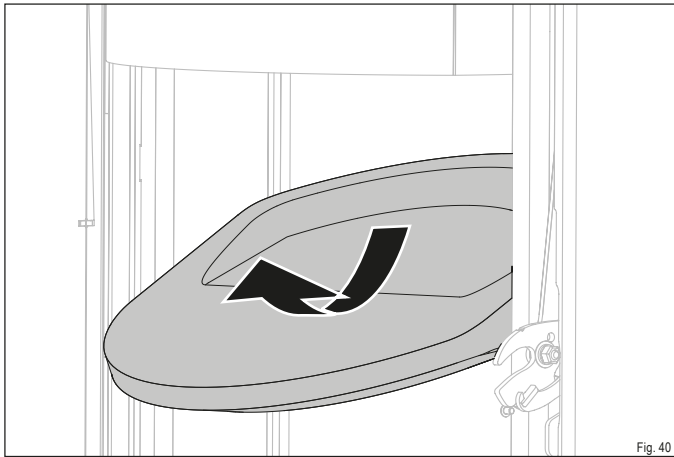

Fig. 40
- ▶ Carefully remove the top firebrick from the retainer as shown (Fig. 40).